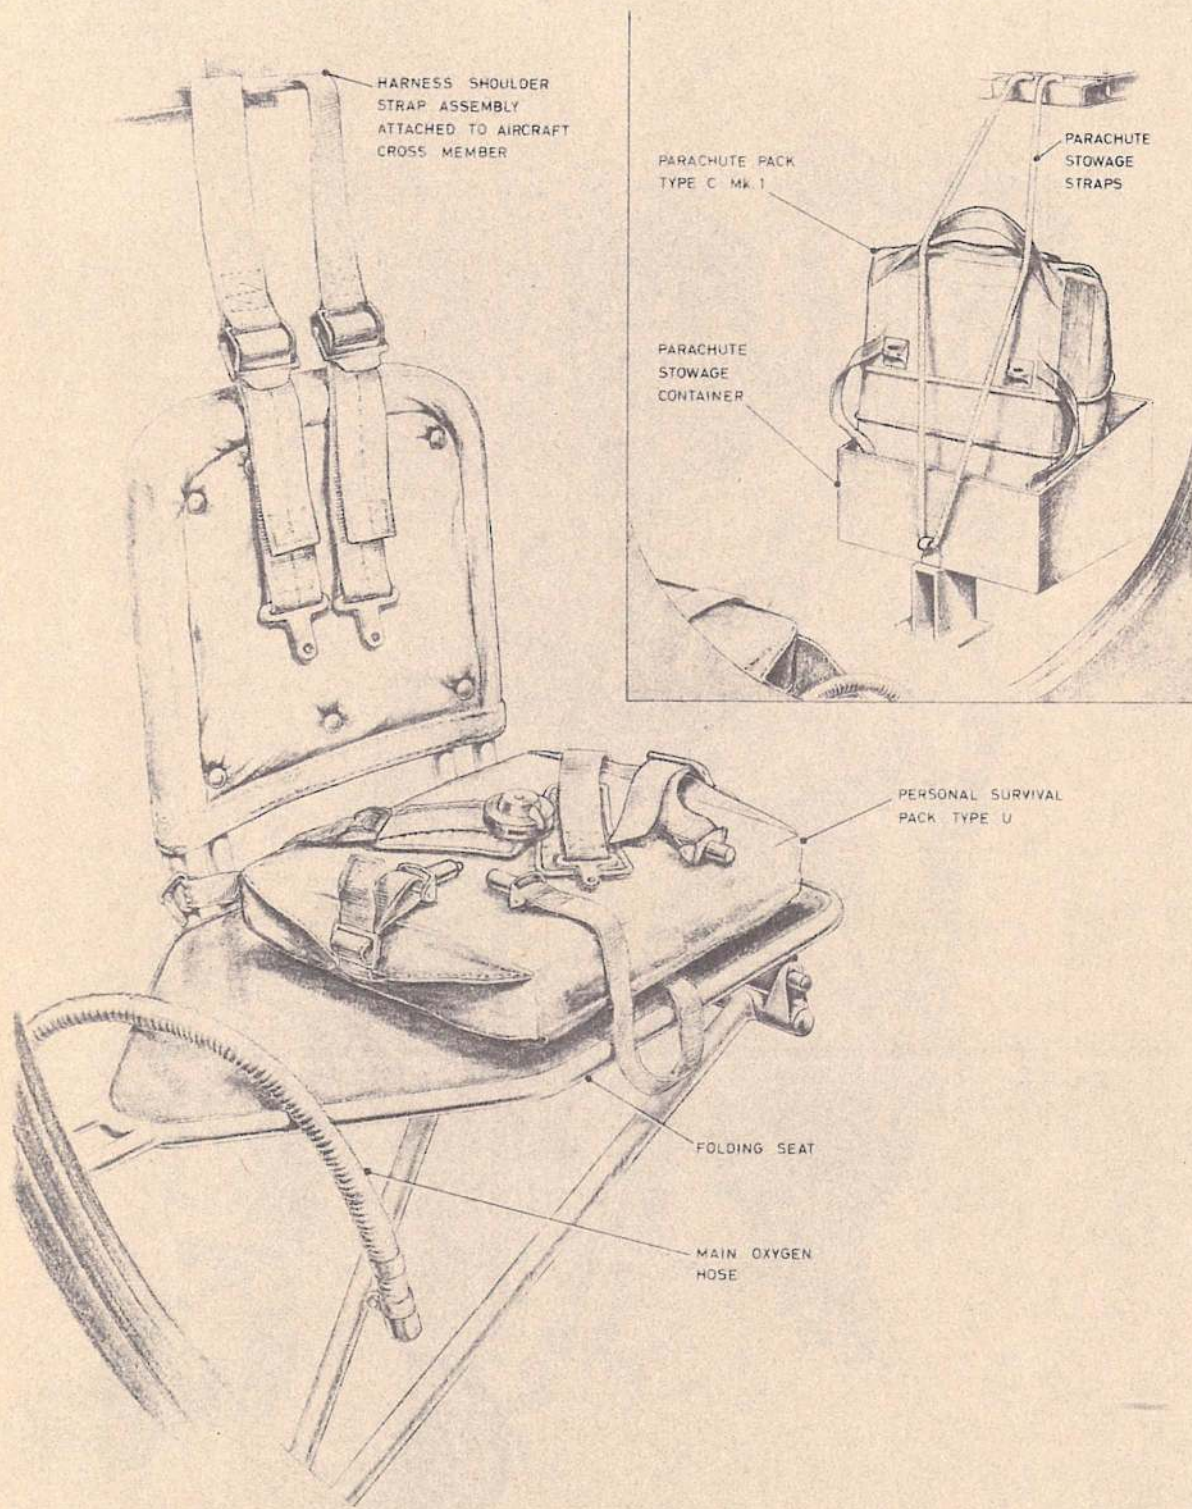

Fig. 7. The folding seat equipped (Inset: parachute stowage)
25. The folding seat is equipped after the other three members of the crew have entered the aircraft and occupied their positions, as follows; refer to fig. 7:—